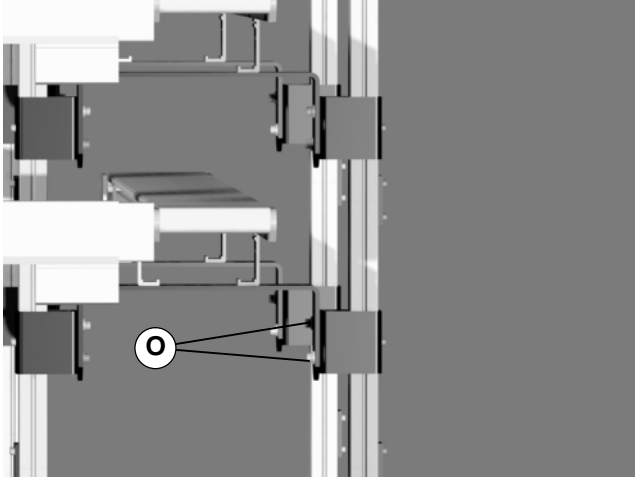
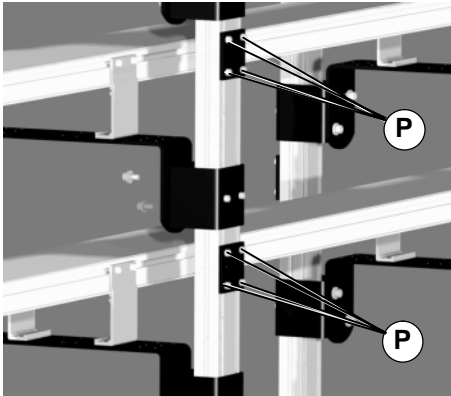

Figure 20
Figure 21
2. Remove mounting bracket screws (O of Figure 20) of the conveyor to be serviced.
3. Loosen tier tie bracket screws (P of Figure 21). Slide tier tie brackets out of the way.
7. Tighten screws (O of Figure 20) to 24 ft-lbs (33 N-m) and tighten tier tie bracket screws (P of Figure 21) to 146 in-lbs (17 N-m).